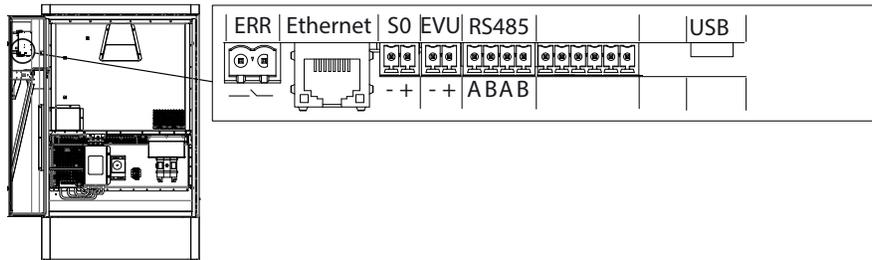

Figure 16: Connection area: connecting the interfaces.
2. Connect the connection cables to the corresponding connection terminals (see Figure 16 on page 22).